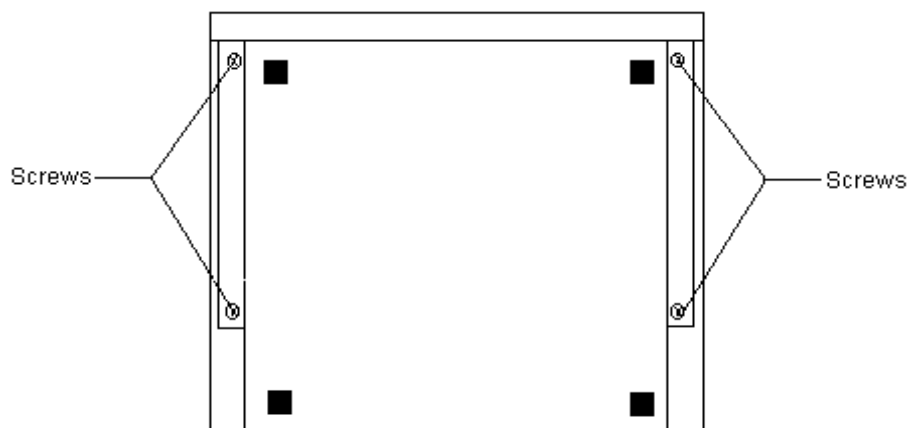

Figure 1
- ❑ Remove the 4 screws that hold the base assembly to the cover assembly. - See Fig. 1.